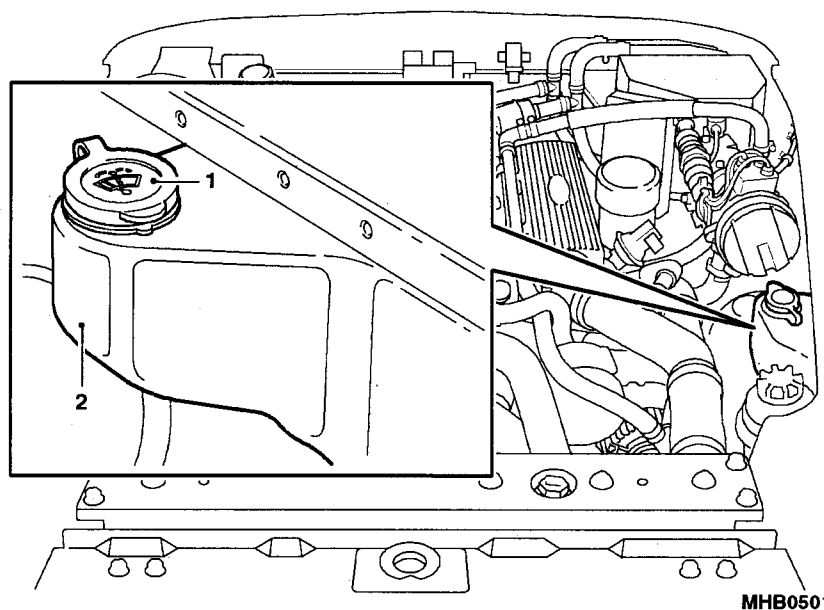

Fig 15 Windscreen washer reservoir
22 The reservoir (Fig 15 (2)) is located under the wing valance on the left hand side and feeds the front and rear wash/wipe system.
- 22.1 To top up the reservoir. Remove reservoir cap (1).